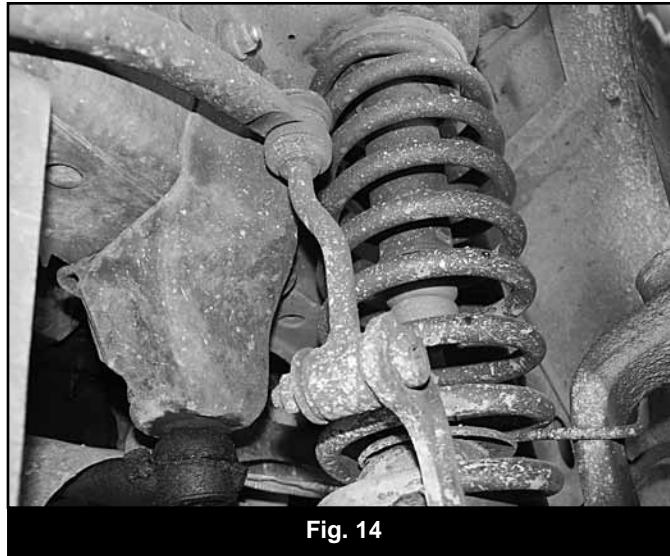

Fig. 14
34. Remove OE sway bar end links and discard (Fig 14).